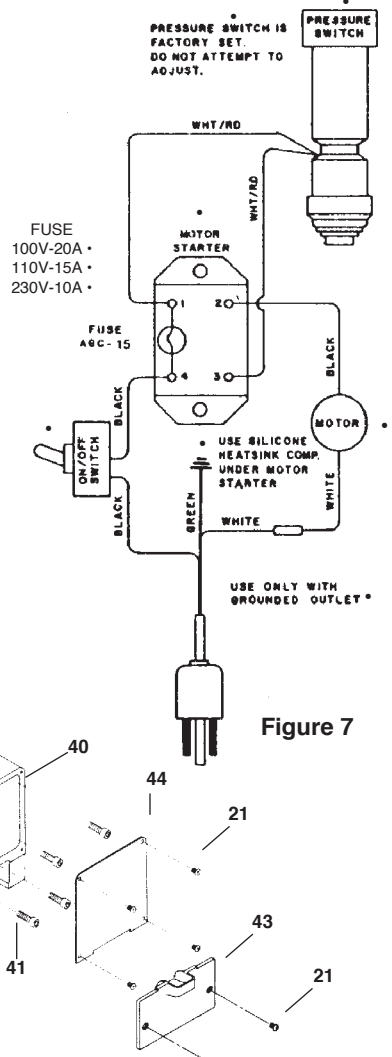

Figure 7
See Figure 7 for the Wiring Diagram.
2. Disconnect the Power Supply Cord (#46) from; a) the On/Off Switch (#49), b) the white wire connected to the motor and, c) the green wire connected to the grounding screw (#42). Refer to the Electrical Schematic, Figure 7.
5. Reconnect wires according to Figure 7.